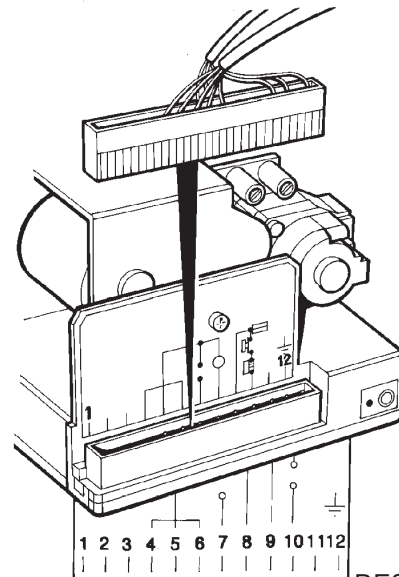

FIG. 33
2. Check the 230v supply on terminal 10 and 11 at control box base, this will also determine if the thermostats are calling for heat. (See Fig. 33).